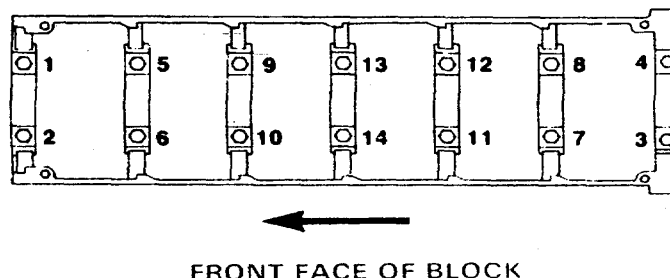

FIGURE 4-46. Bearing Cap Torque Sequence.
- (10) Tighten all of the capscrews for the main bearing caps. Use the sequence shown in Figure 4-46 when you tighten the capscrews.